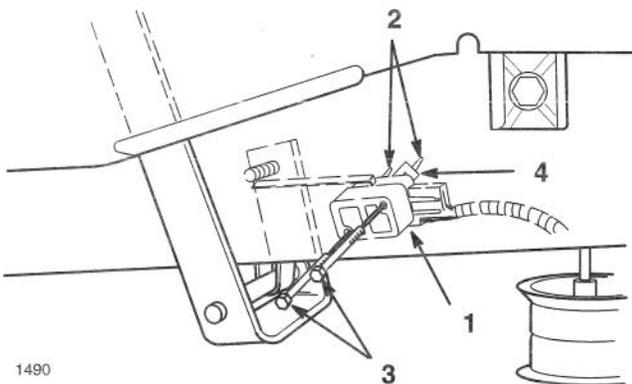

Figure 8
5. Locate switch assembly inside frame using toothpicks as a guide (Fig. 8).
6. Holding switch assembly firmly in place, behind frame, push toothpick through assembly with a screw. Thread screw into Tinnerman nut (Fig. 8). Repeat procedure with second switch mounting screw. Tighten mounting screws securely.